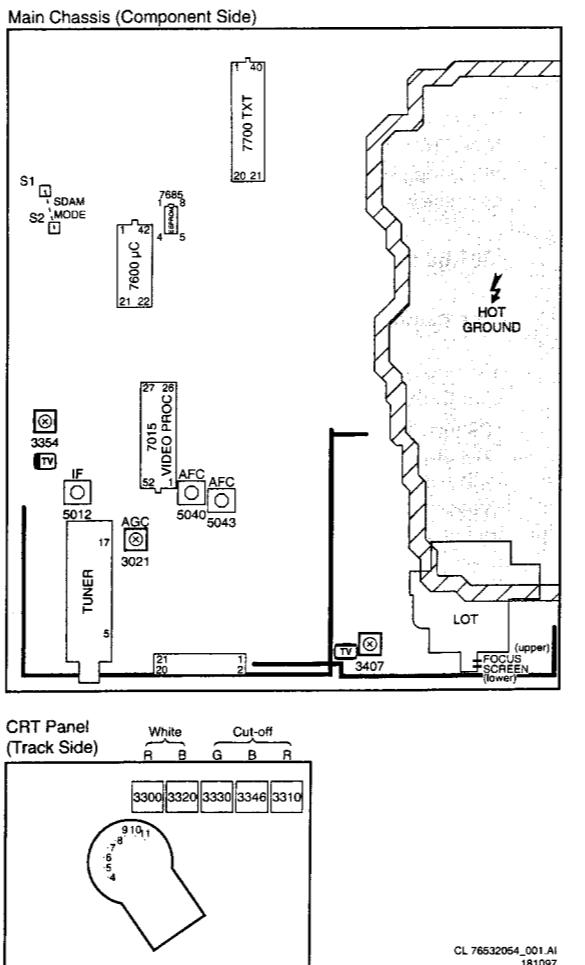

Fig. 8.1
1. Adjustments on the main panel (Fig. 8.1)
2. Adjustments on the CRT panel (Fig. 8.1)
When the switch TS7504 is closed, the input voltage is placed over winding 2-3 of transformer 5500, which acts as coil L2-3 in Fig 8.1. Via resistors R3513, R3518 and R3512 the switch is turned on for the first time. Zener diode D6502 prevents that the Ugs of the FET becomes higher than 15V. When the input voltage is on winding 1-2, via winding 1-2 the correct switching voltage is obtained. The DC-part of this voltage is blocked by capacitor C2503.